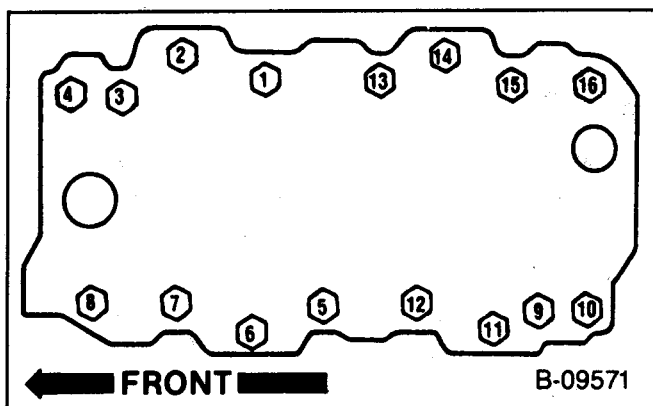

Figure 6—Intake Manifold Bolt Tightening Sequence
Install or Connect (Figure 6)
- Bolts to 40 N·m (30 ft. lbs.). Use the tightening sequence shown in Figure 6.